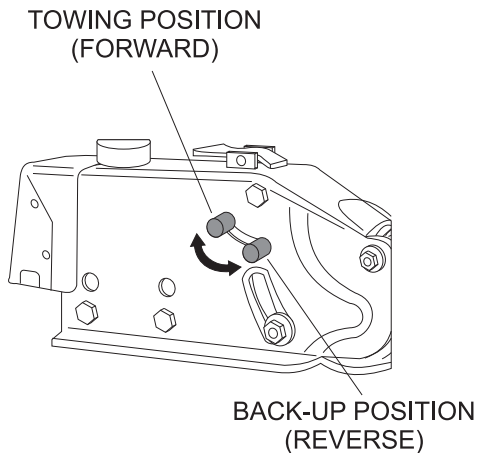

Figure 41. Towing Hitch Direction Lever
12. The direction lever must be positioned in the “Towing Position” (Figure 41).
3. Move the directional lever on the side of the actuator downward from the “**TOWING**” position along the curved slot in the actuator frame to the “**BACK-UP**” position (Figure 41). The slot has a notch at the bottom of its travel. Push the directional lever down to engage the locking notch.
Before towing the pump, always ensure that the **directional lever** (Figure 41) has been disengaged and is in the “Towing Position.”